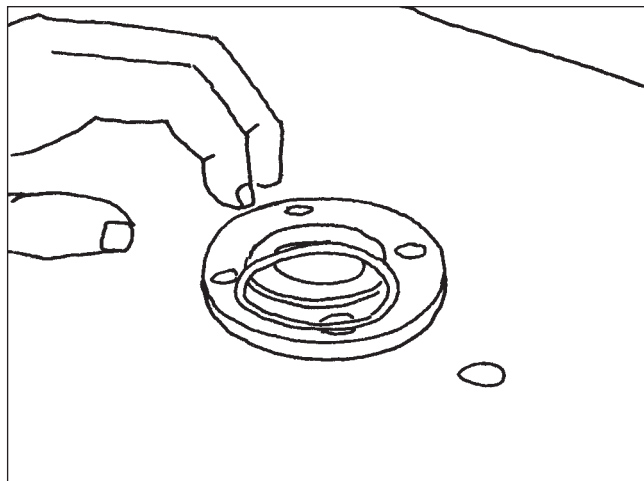

Figure 15
2. Install a new O-ring on the bearing cap cover and coat the O-ring with a light coat of grease (**Figure 15**).